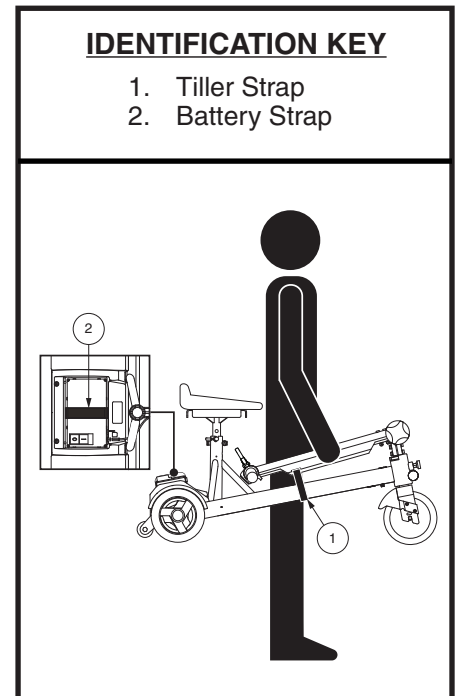

Figure 21. Folding for Transport
3. Wrap the tiller strap firmly around the main beam using the reusable hook and loop fastener to secure the straps. See figure 21.